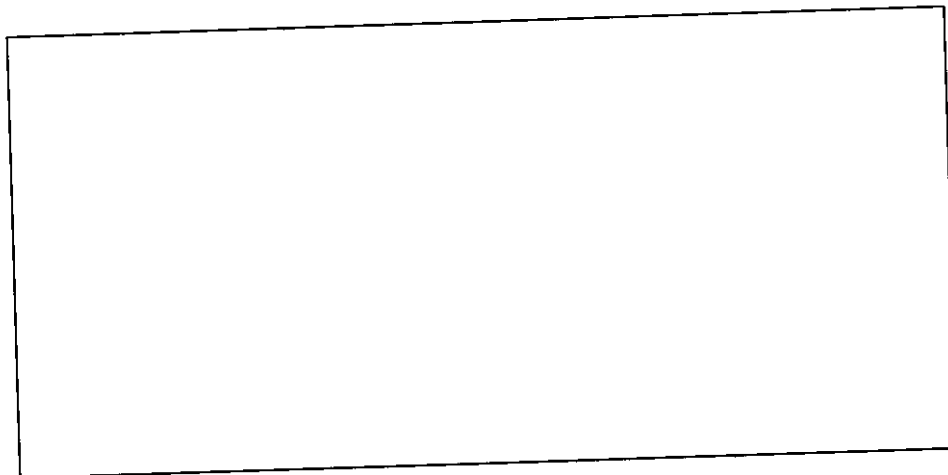

Figure 5. Repeater to Node Receiver Ranges
- **Repeater Location.** The repeater location(s) will be largely determined by the location of the transponders and the method used to group them. When determining range requirements use the chart in Figure 5.
this for all the other points. Measure from each "X" back to the node receiver antenna. The distance should not exceed those specified by the tier two range limitations chart in Figure 5.